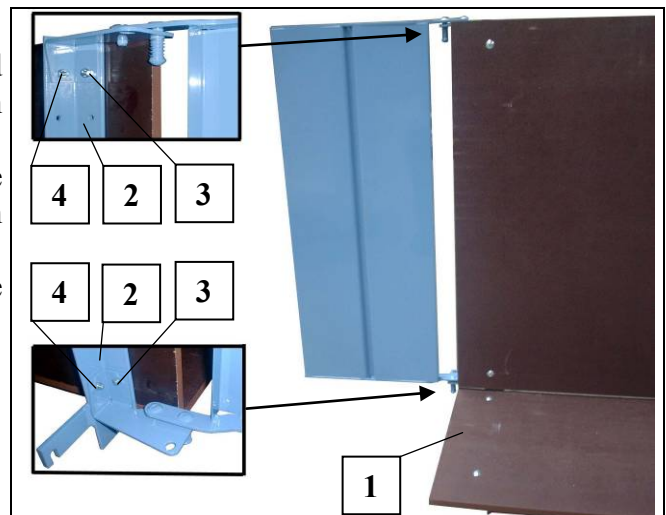

Fig. 40 Putting together the universal platform
- Mount folding side guards (5) (see Fig. 40) Assemble board (6) from above onto the bearing section with two screws respectively (7).